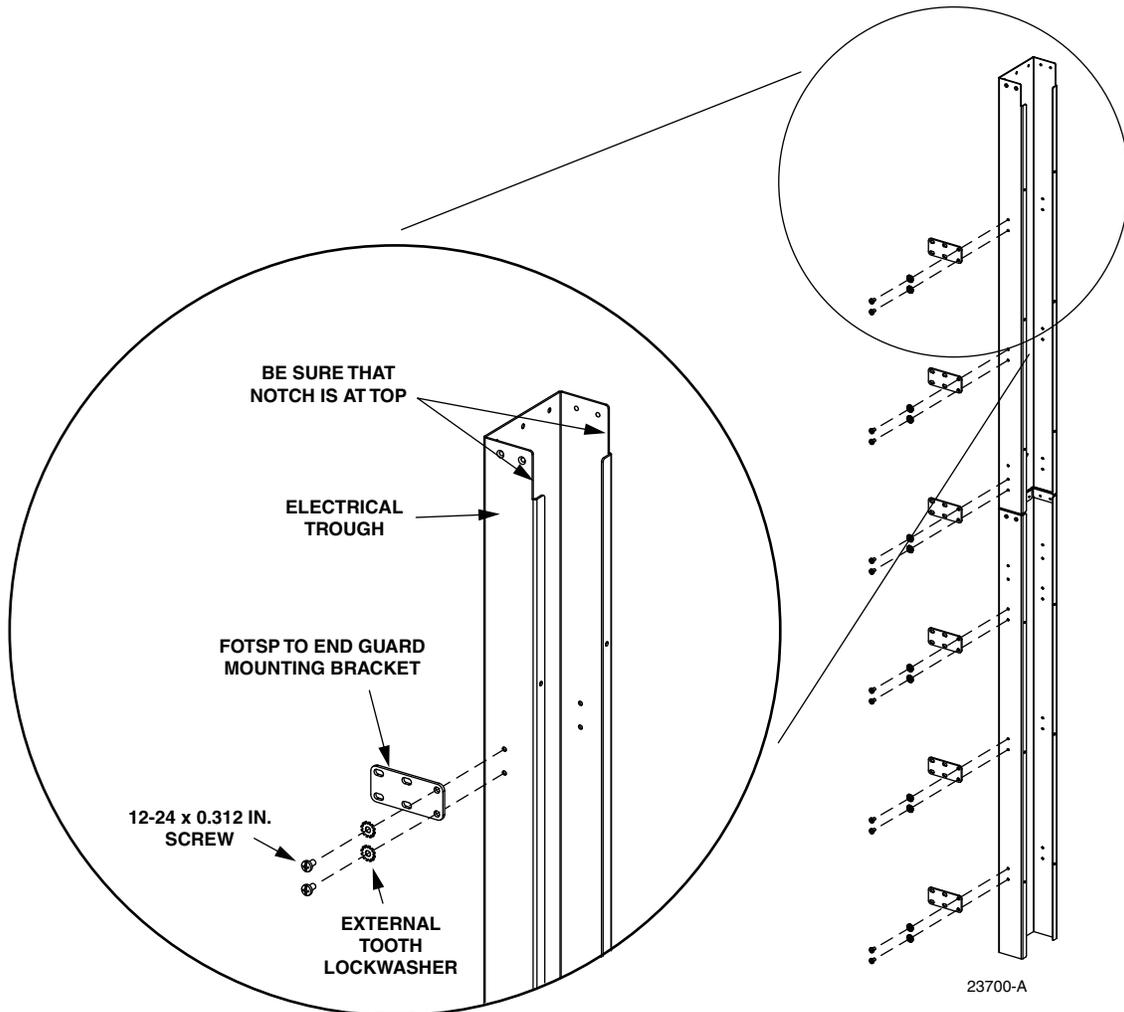

Figure 15. Installing Mounting Brackets on Electrical Trough
2. Install the six right or left FOTSP to end guard mounting brackets on the electrical using two 12-24 x 0.312 inch screws and two external tooth lockwashers on each bracket, as shown in Figure 15.